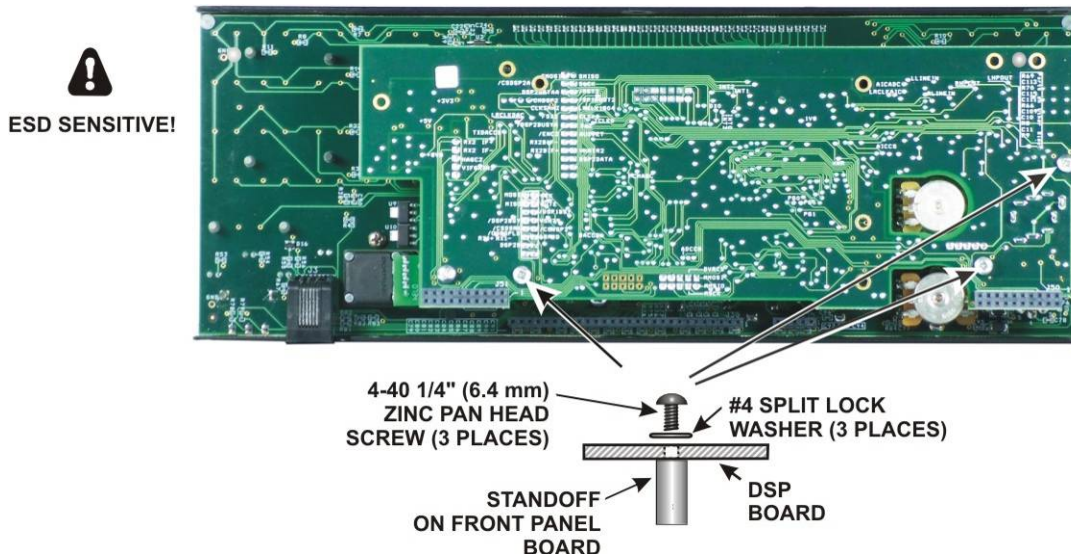

Figure 29. Mounting the DSP Board.
□ Secure the DSP board to the front panel board with three 4-40 1/4" (6.4 mm) zinc pan head screws and split lock washers as shown in Figure 29.